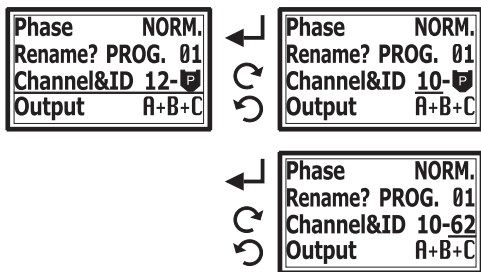

Fig. 18
(J) CHANNEL and ID function, Fig. 18: